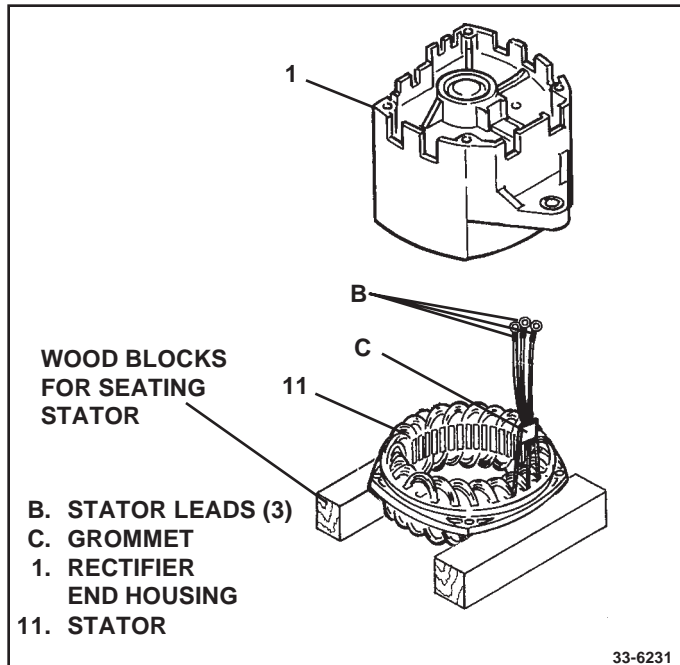

Figure 30. Installing Stator
9. Straighten stator leads (B) to ease installation. Lubricate grommet (C) on stator leads lightly with petroleum jelly. Welded junction connector on some stators must be positioned straight up from windings to prevent grounding to housing or rotor when alternator is assembled. Straighten stator lead wires all the way to the windings and insert through well in housing into electronics compartment. (See Fig. 30)